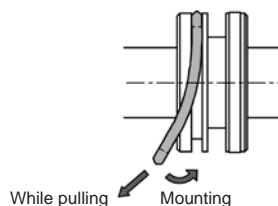

Fig. 5 Installation of piston seal
③8 Rod seal A: Mount the seal in the correct direction.
③5 Piston seal: Mount the seal while stretching it as Fig. 5.